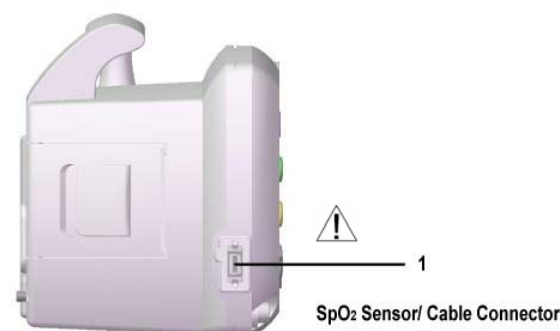

**Figure 4. NIBP Cable Connections**
2. Connect the hose to the right panel NIBP connector (see Figure 4).